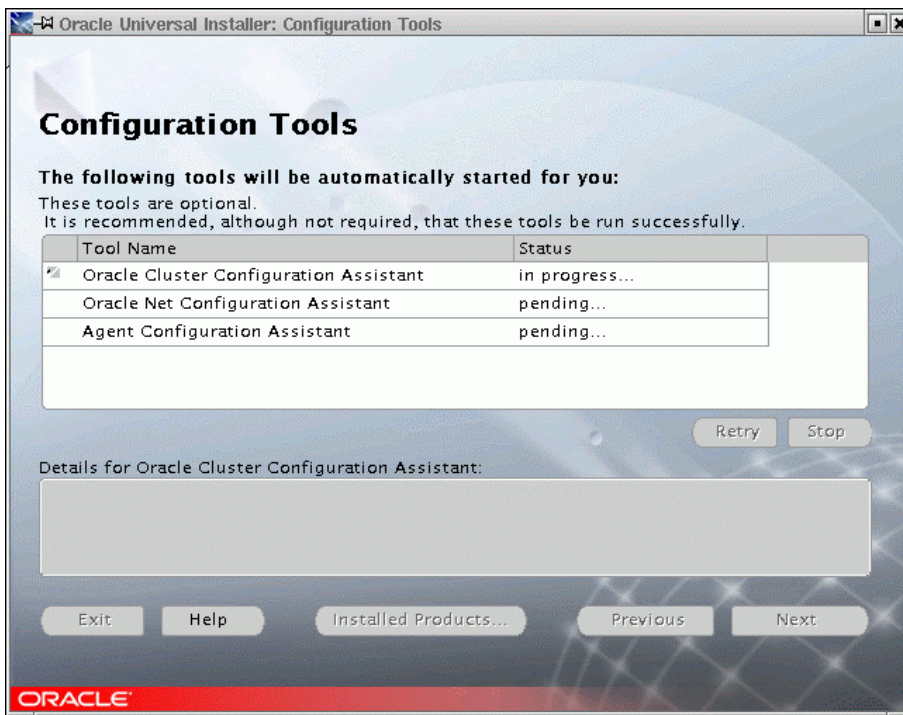

Figure 50. Configuration Tools
- OUI will automatically configure the cluster and run the Network and Agent Configuration Assistants, shown in Figure 50.